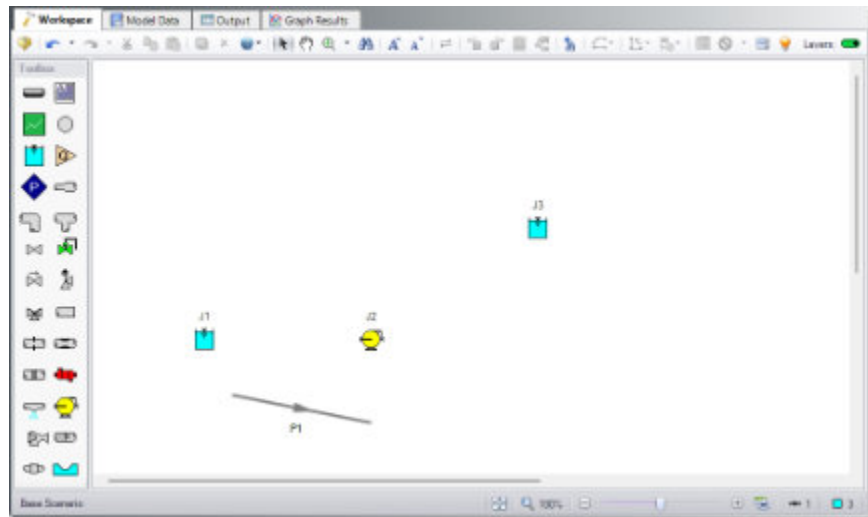

Figure 2.6 Pump Sizing model with the first pipe drawn
- **To create a pipe**, click the Pipe Drawing Tool icon on the Toolbox. The mouse pointer will change to a crosshair when you move it over the Workspace. Left-click and drag to draw a pipe below the junctions, similar to that shown in Figure 2.6.